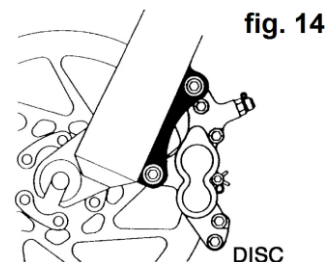
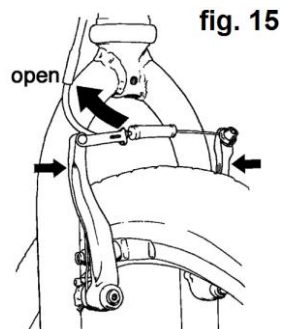

fig. 14
fig. 15
- (1) If your bike has rim brakes, disengage the brake's quick-release mechanism to increase the clearance between the tire and the brake pads (see Section 4.C, figs. 14 through 18, p. 19).
- (1) If you have a multi-speed bike with a derailleur gear system: shift the rear derailleur to high gear (the smallest, outermost rear sprocket). If you have an internal gear rear hub, consult your dealer or the hub manufacturer's instructions before attempting to remove the rear wheel. If you have a single-speed bike with rim or disk brake, go to step (4) below.
- (2) If your bike has rim brakes, disengage the brake's quick-release mechanism to increase the clearance between the wheel rim and the brake pads (see Section 4.C, figs. 14 through 18, p. 19).
- (3) On a derailleur gear system, pull the derailleur body back with your right hand.
3. **Some bicycle brakes, such as disc brakes (fig. 14) and linear-pull brakes (fig. 15), are extremely powerful. Take extra care in becoming familiar with these brakes and exercise particular care when using them.**
Most rim brakes have some form of quick-release mechanism to allow the brake pads to clear the tire when a wheel is removed or reinstalled. When the brake quick release is in the open position, the brakes are inoperative. Ask your dealer to make sure that you understand the way the brake quick release works on your bike (see figs. 14, 15, 16, 17, & 18) and check each time to make sure both brakes work correctly before you get on the bike.